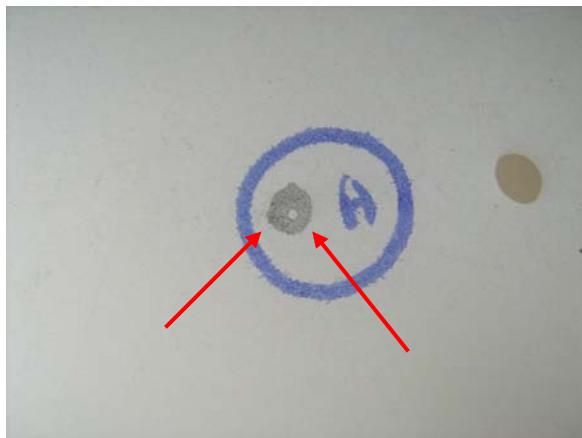
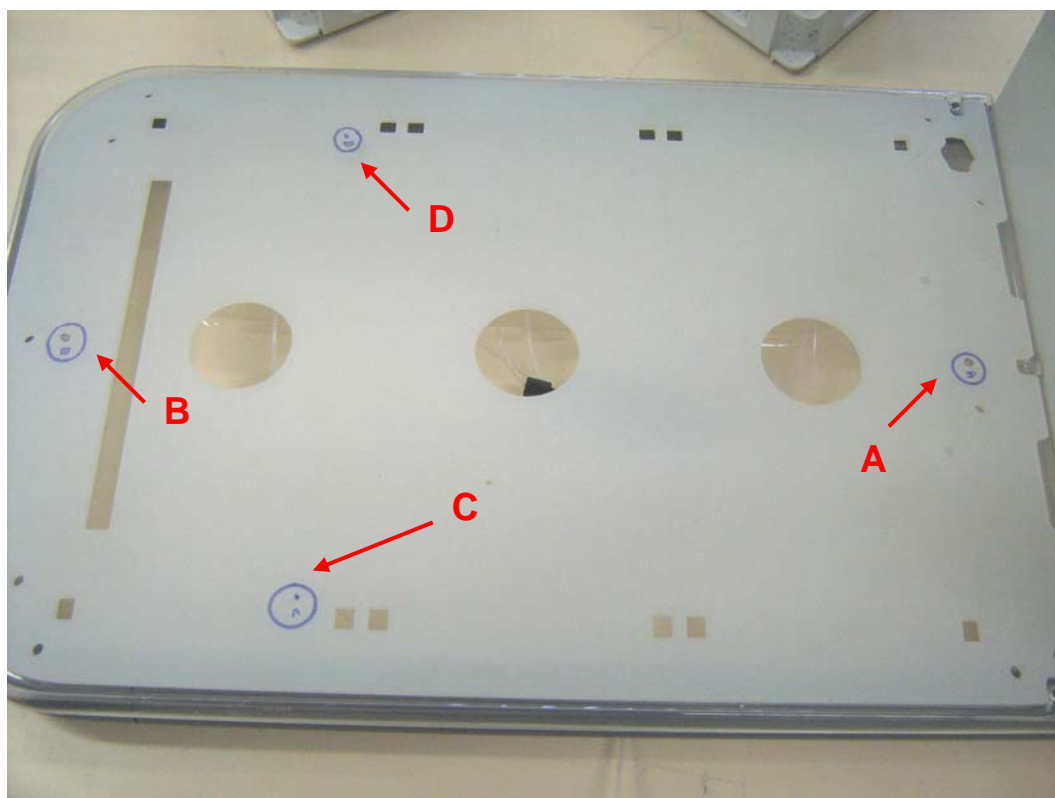

Figure 44. Example Dimple in Position "A"
Figure 45. White Sample Rack Holder Tray with 4 Dimples
7. Remove the sample racks from the Fraction Collector tray. With the sample racks off the tray you should be able to see 4 small dimples (Figure 44) in the white plastic rack holder (Figure 45). Each of these dimples corresponds to a position (A, B, C, D).